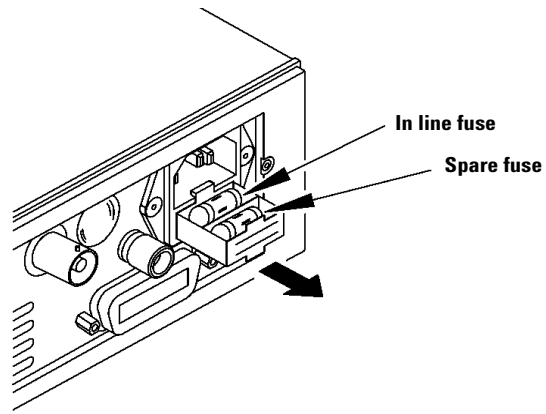

Figure 8-4 Replacing the Fuse
- 2 Slide the fuse holder assembly from the rear panel as shown in Figure 8-4.
- 3 Install the correct fuse in the "In line" position as shown in Figure 8-4. (A spare fuse can be stored in the fuse holder assembly.)